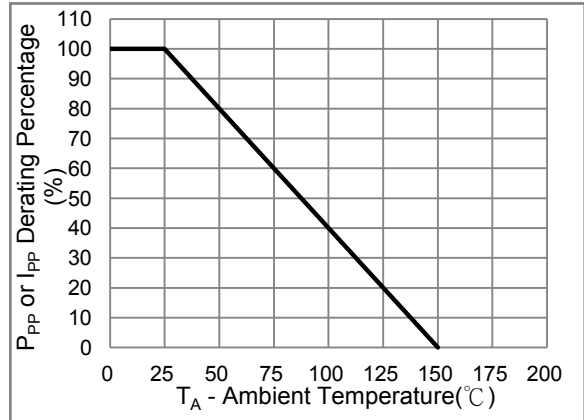
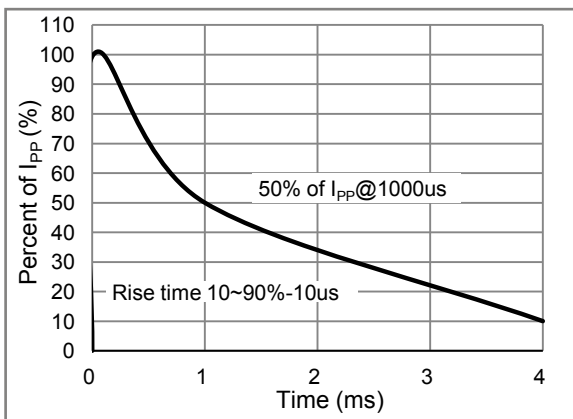

Fig.2 Derating Curve
Fig.3 10/1000μs Pulse Waveform
1. Non-repetitive current pulse, per Fig.3 and derated above $T_A = 25^\circ C$ per Fig. 2.